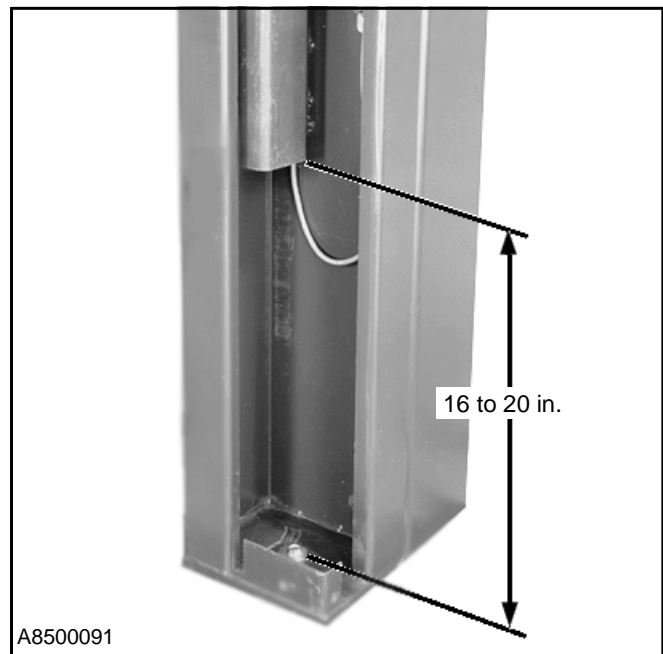

Figure 44
NOTE: The 16- to 20-in. dimension shown in Figure 44 is adequate for most Turbo-Seal doors. However, for some very wide or short doors, the counterweight may have to be adjusted closer to the bottom of the side column. Also, make sure the counterweight guides are behind the conduit guides located in the side column.
4. With the door panel in the fully-open position, the counterweights should be positioned 16 to 20 in. above the bottom of the side column. (See Figure 44)
5. To adjust the counterweights, securely block the counterweights in the position indicated in Figure 44 above.